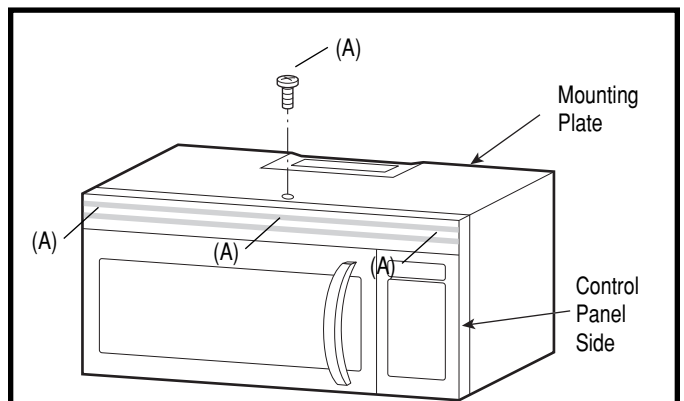

Figure 5
3. Remove and save Screws (A) as shown in Figure 5.